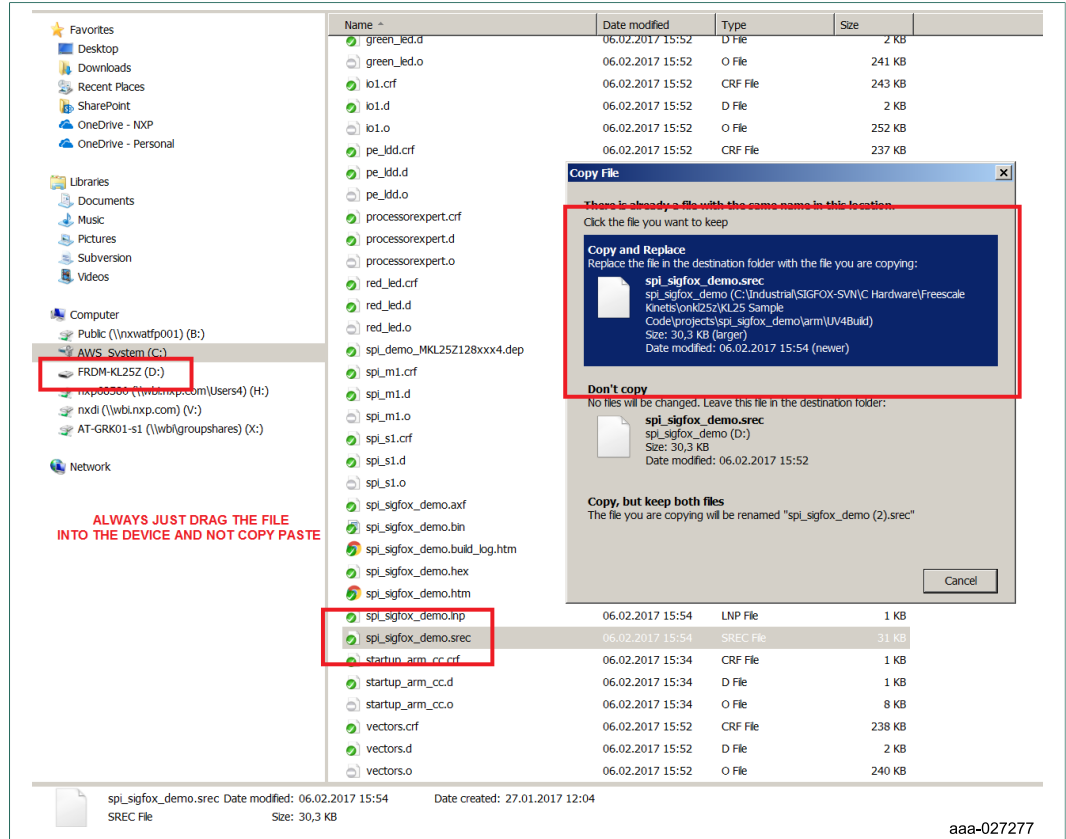

Figure 15. Flashing the firmware on KL43Z
3. If the device has an updated bootloader installed in it already, it will be shown detected as a removable device on windows PC labeled as FRDM-KL43Z as shown in Figure 15. If the bootloader is not installed, follow steps given in Quick Start Guide for FRDM-KL43Z (www.nxp.com/FRDM-KL43Z) to update bootloader.
6. Install and open a terminal software like Tera Term with the settings as shown in Figure 15. Use the OpenSDA com port number, which you can get from the Windows Device Manager program. Press and hold (or right-click) the **Start** button, then select **Device Manager** from the context menu. In the Device Manager, click on **Ports (COM & LPT)**. Under OpenSDA – CDC Serial Port, note the COM port number. You can set these settings on the **Setup** menu of the terminal program.
7. After you Press the reset button on the KL43Z, a menu as shown in Figure 15 will appear, indicating that the KL43Z board is properly set up.